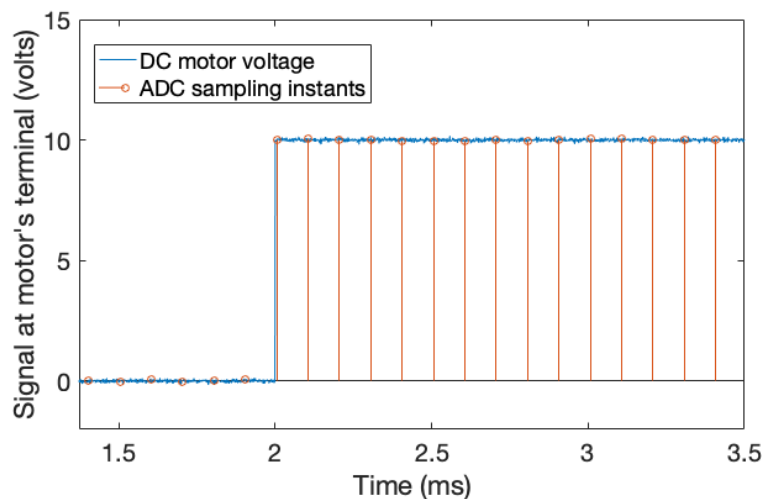

Figure 4 ADC sampling the DC motor voltage at a rate of 10^4 samples/second.
- In order to measure the DC motor's voltage and accordingly determine the measured speed, the ADC should sample the DC motor signal fast enough to track the Hi-Lo variations of the PWM across the motor and efficiently estimate the average driving voltage. As such, you are required to configure your control system, using a periodic interrupt, to take an ADC sample once every 100 μs , or at a sampling rate of 10^4 samples/second. Figure 4 depicts the ADC sampling instants on a snapshot of the noisy PWM signal at the DC motor terminals. The sampling rate of 10^4 samples/second guarantees that every noisy PWM cycle will get 100 samples to measure the actual voltage applied to the motor by this noisy cycle.